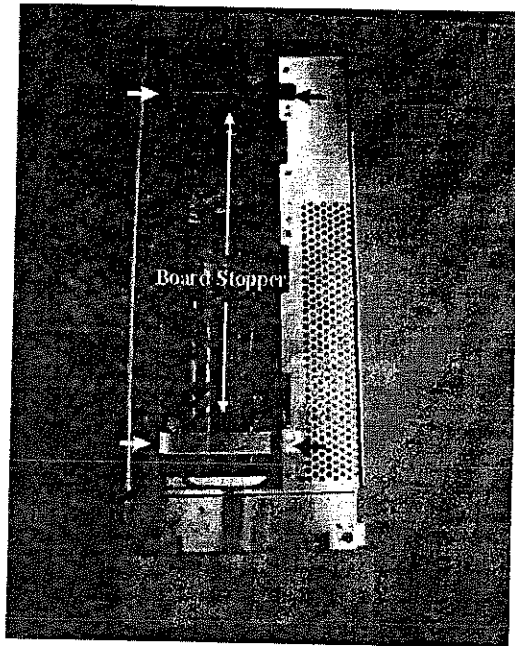

Figure 5-7 Location of Board Stopper
6. Remove board stopper on the side of R3267/3273 to remove cables for RF block, referring Figure 5-7.